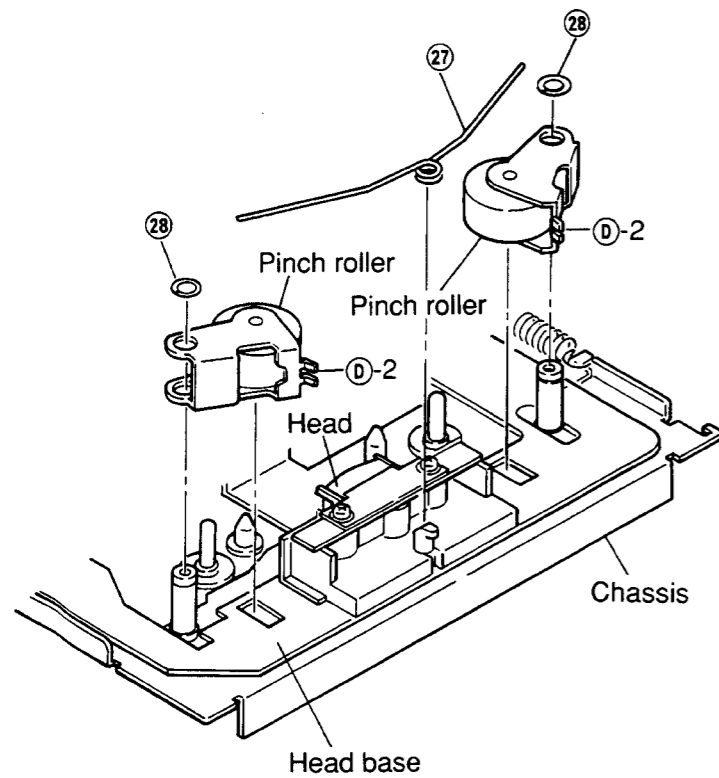

Figure 20
- (1) Remove pinch roller spring ⑳ as shown in Figure 20.
- (2) Remove M3.1 two lock washers ㉔ and remove the pinch roller as shown in Figure 20.
- (3) Mount the pinch rollers following the removal steps in the reverse order.
Apply insulation coating to the position ㉑-2 of the pinch roller as shown in Figure 20.